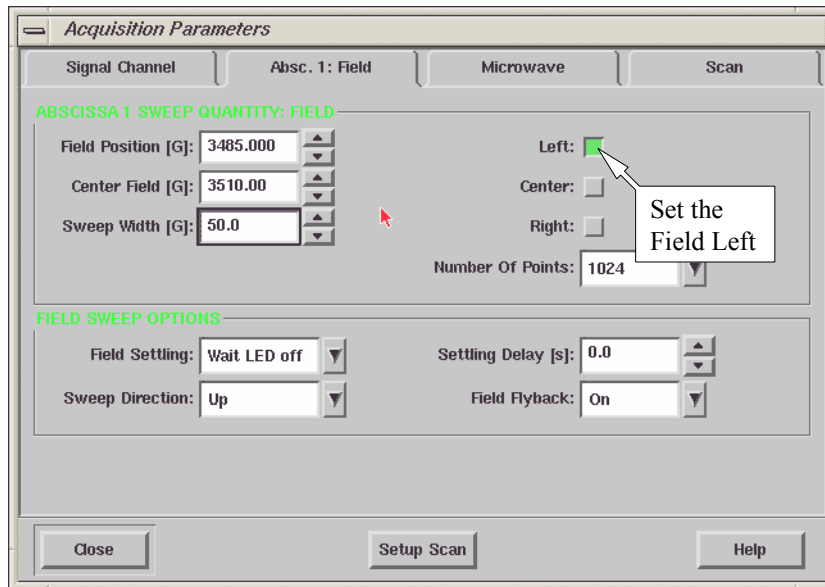

Figure 3-5 Setting the magnetic field.
5. **Set the magnetic field.** Click the Absc. 1: Field tab. Set the Center Field to 3510 G and the Sweep Width to 50 G. Set the Number of Points to 1024. Since a very long time constant will be used, set the field to the Left edge to avoid overshoots or undershoots in the first few data points when you acquire the spectrum. (See Figure 3-5.)